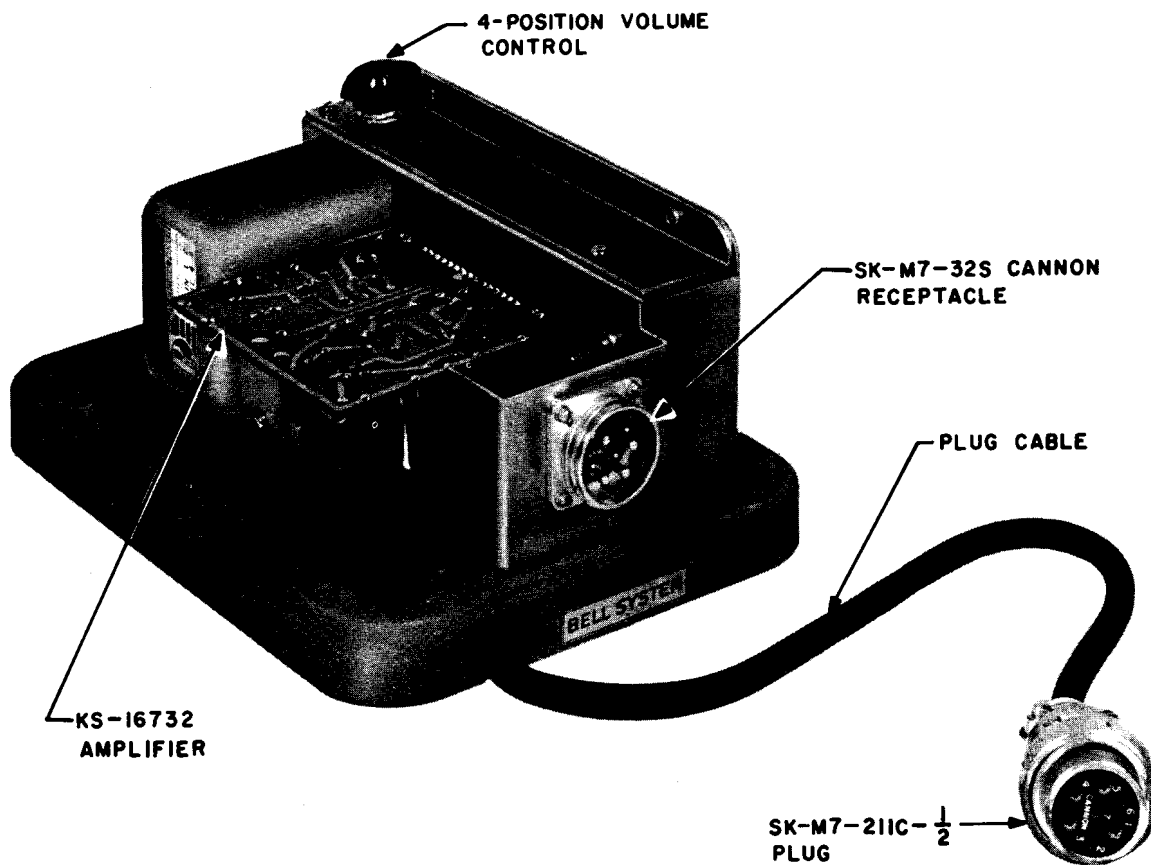

Fig. 3 - KS-16730, List 1 Recorder Connector
3.02 The KS-16730, List 1 recorder connector consists essentially of a multiband elimination filter and a plug-in type transistor amplifier. (See Fig. 3.) These and associated components are assembled in a metal case similar to that which houses the 50 type.